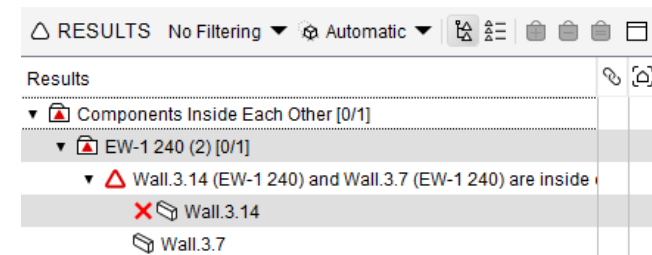

Figure 64: The issue, intersection checking
- 4) Select “*Wall.3.14 (EW-1) and Wall.3.7 (EW-1) are inside each other*” from the **Results Table Tree**. The smaller wall (being inside) is already rejected automatically by the rule (see Figure 64).